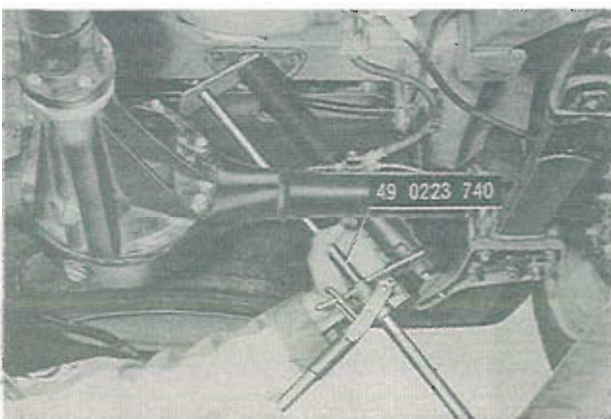

Fig. 13A-2 Compressing of shock absorber
3. Compress the shock absorber with a **shock absorber lifter** (49 0223 740) as shown in Fig. 13A-2.